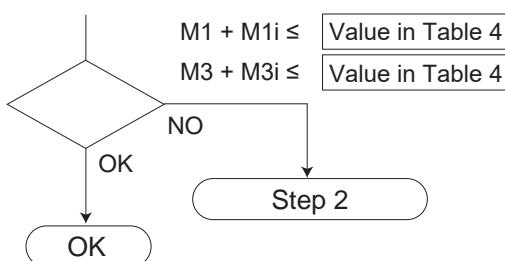

Figure 8 Trend of inertia force coefficient of SRM3
(1) Obtain the G coefficient from the speed of entering the cushion ( $V_a$ ) and Figure 8 (Trend of inertia force coefficient for SRM3). Use the speed of entering the cushion ( $V_a$ ) calculated in Step 8.